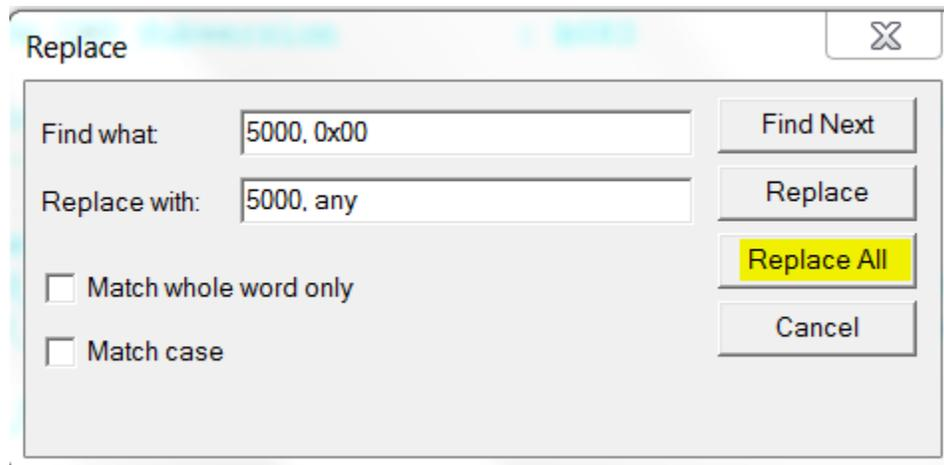

Figure 5. Editing the BTS File for Use in the HCITester Tool
5. Click Edit→ Replace→ Replace All and replace 0x00 in the Number of HCI Commands parameter with any (see Figure 5).